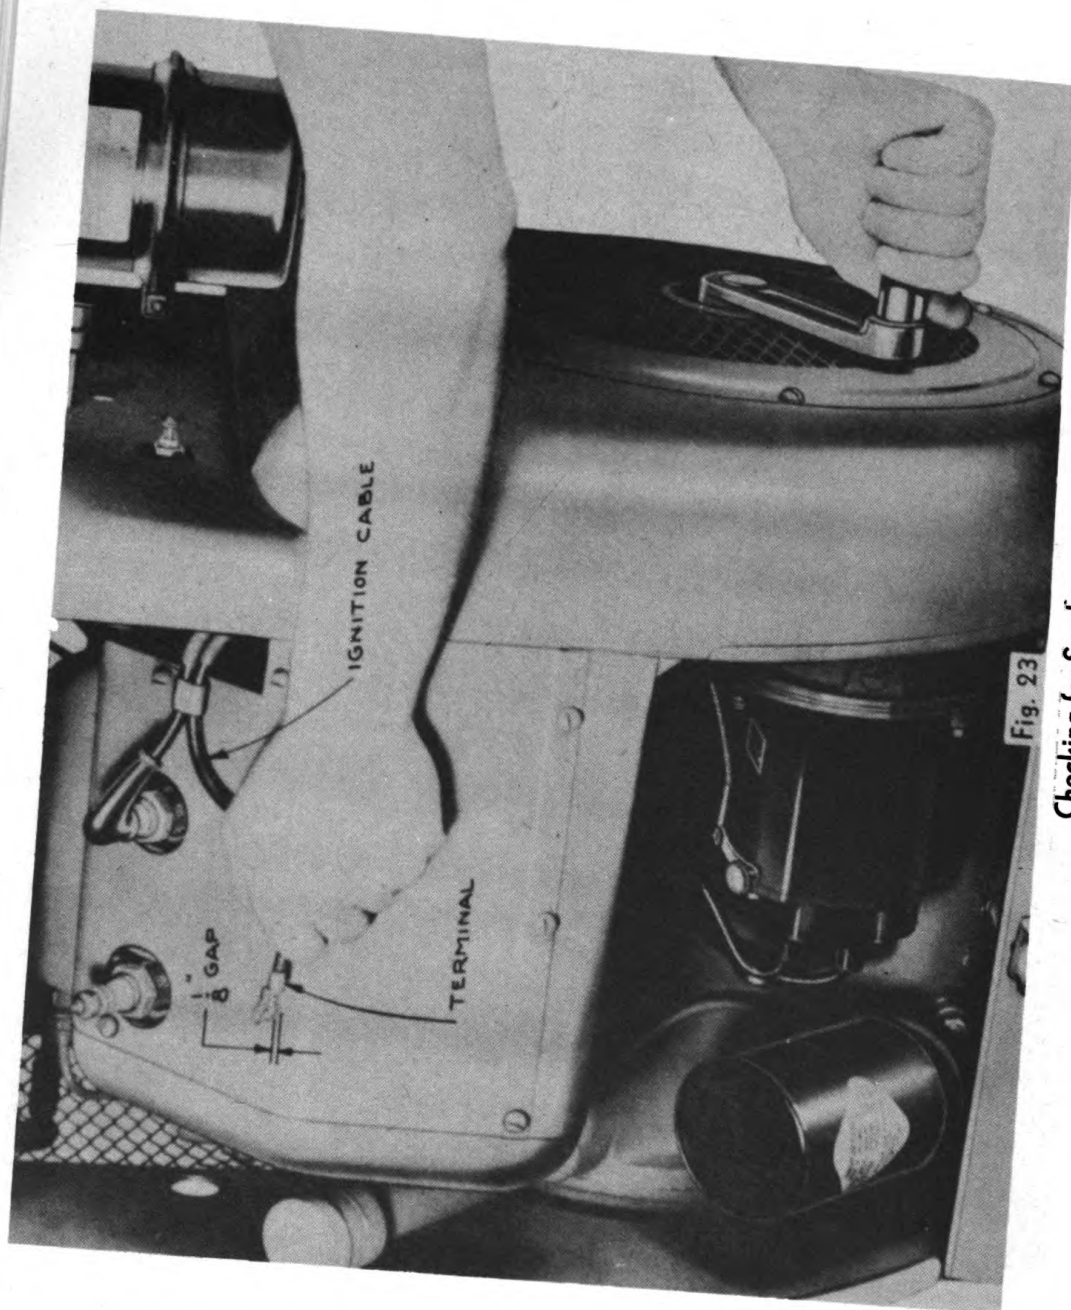

Fig. 23
**TO CHECK FOR SPARK**—To prove that a satisfactory spark is being delivered by the magneto, remove the ignition cable from one of the spark plugs. Hold ignition cable terminal about  $\frac{1}{8}$ " from the metal shrouding or cylinder head, and turn the engine over with the crank. If the spark jumps the gap then the entire ignition system with the exception of the spark plugs is probably okay. In case the engine misses, each spark plug wire should be checked in this manner. (Fig. 23)